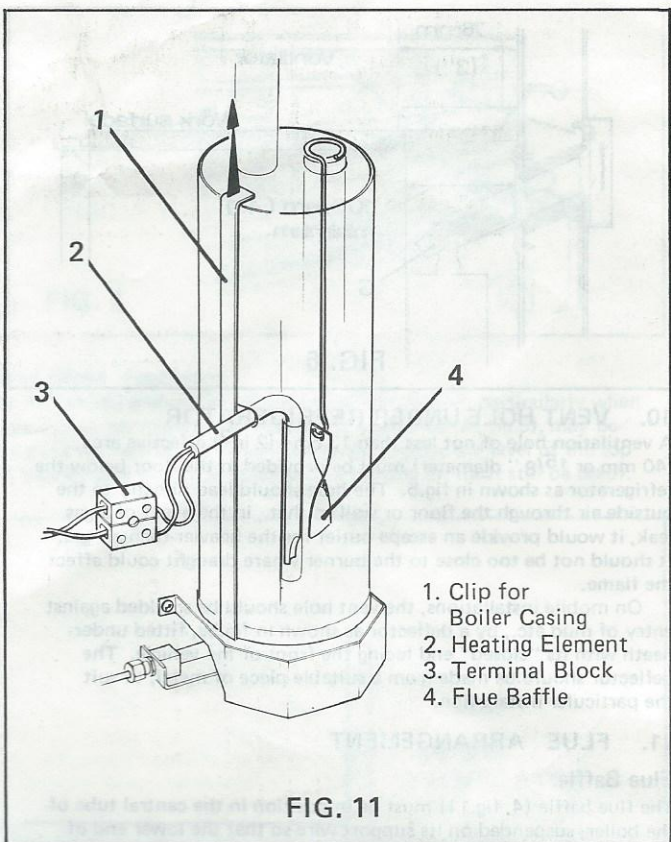

FIG. 11
The flue baffle (4, fig.11) must be in position in the central tube of the boiler, suspended on its support wire so that the lower end of the baffle is 75 mm (3") above the bottom of the central tube, over the burner. The top end of the baffle support wire is bent into the shape of an "O", and rests horizontally on the top of the central tube. The baffle is correctly positioned during manufacture and should not become displaced during normal use. If the flue baffle is missing or is incorrectly located, the cooling unit will not operate properly on gas. Any strapping tape used to retain the baffle support wire to the top of the boiler casing during transit should be removed before installation.
12. 12V ELECTRICAL INSTALLATION (See figs.11, 12, 12a, and 12b)
For operation on 12V, the boiler of the cooling unit is fitted with an 85 watt heating element which is connected to a terminal block on the back of the refrigerator (3, fig.11). Before installing the refrigerator in the recess, the wiring for the 12V electrical supply should be connected to this terminal block, leaving enough slack for subsequent insertion and withdrawal of the refrigerator for servicing purposes. A suitable switch or plug and socket should be fitted in a convenient position in the wiring in the caravan so that the refrigerator can be readily disconnected from the 12V supply when 12V operation is not required, see fig.12a.
For operation on 12V, the boiler of the cooling unit is fitted with an 85 watt heating element (2, fig.11), connected to a two-way terminal block (3) at the back of the refrigerator. 12V operation is not thermostatically controlled therefore the cooling unit will operate all the time the refrigerator is connected to the 12V supply. (As 12V operation is intended for use only while the caravan is on tow, over-cooling is unlikely because of the comparatively short time involved. If overcooling does occur during extended towing periods, the refrigerator may be disconnected periodically as experience proves necessary).
27. FLUE BAFFLE (4, fig.11)
1. Lift out the flue baffle on its support wire from top of boiler central tube (see fig.11).